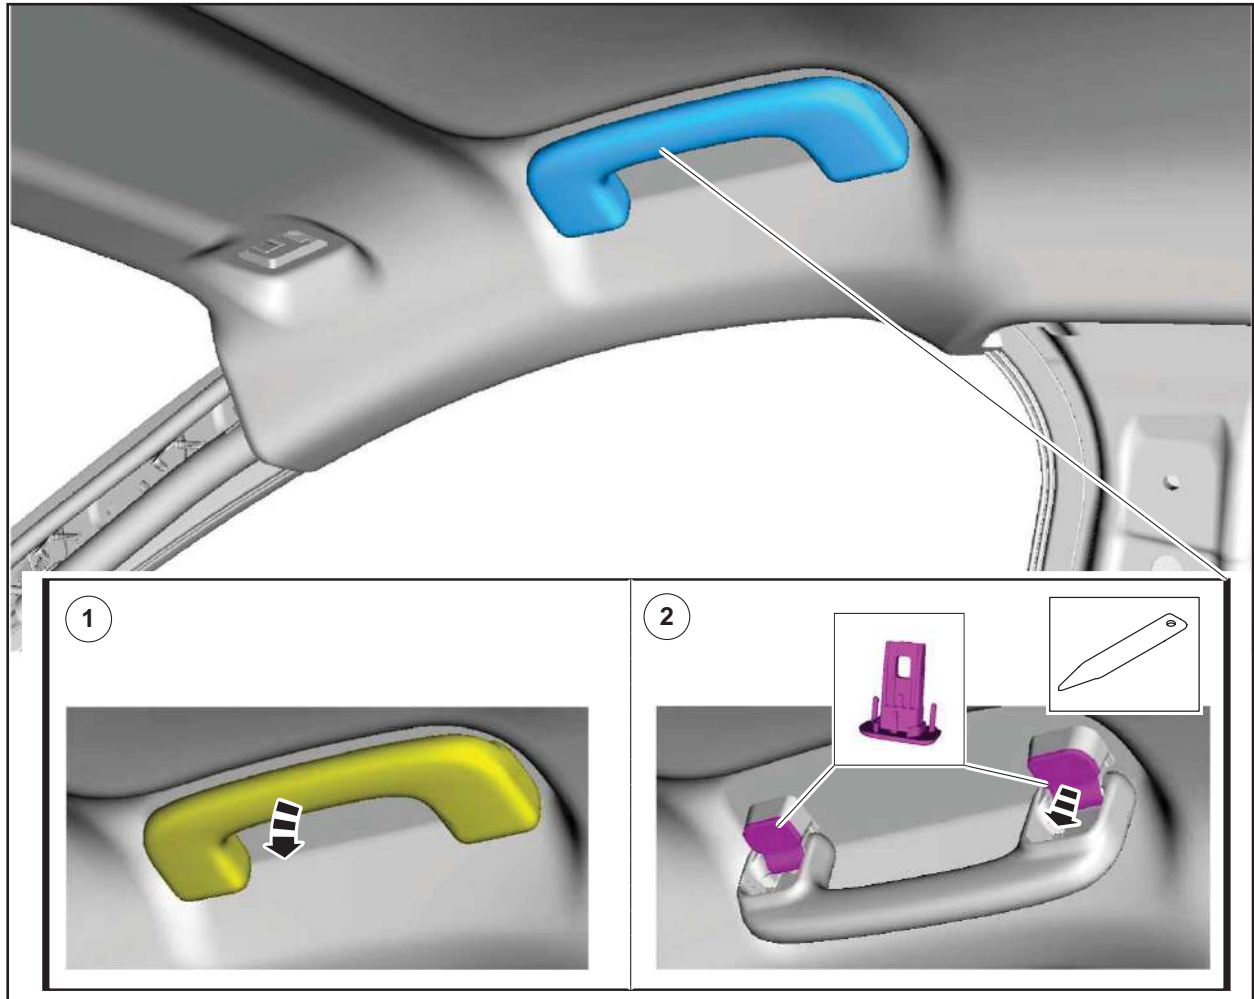

FIGURE 31
31. Remove the LH rear assist handle. See Figure 31.